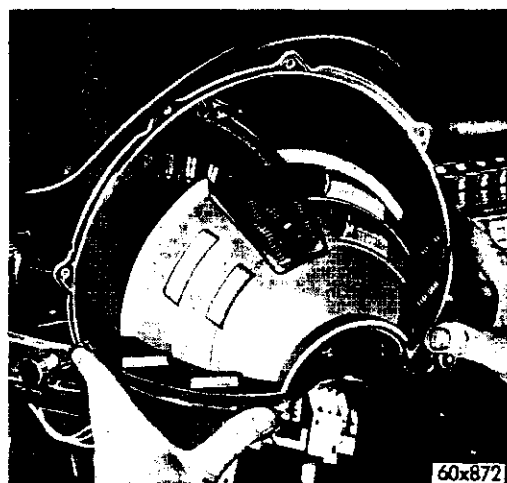

Fig. 120—Removing the Instrument Cluster and Dome
(10) Snap out the brake lamp socket and lamp and remove the dome and cluster assembly from the car, as shown in Fig. 120.